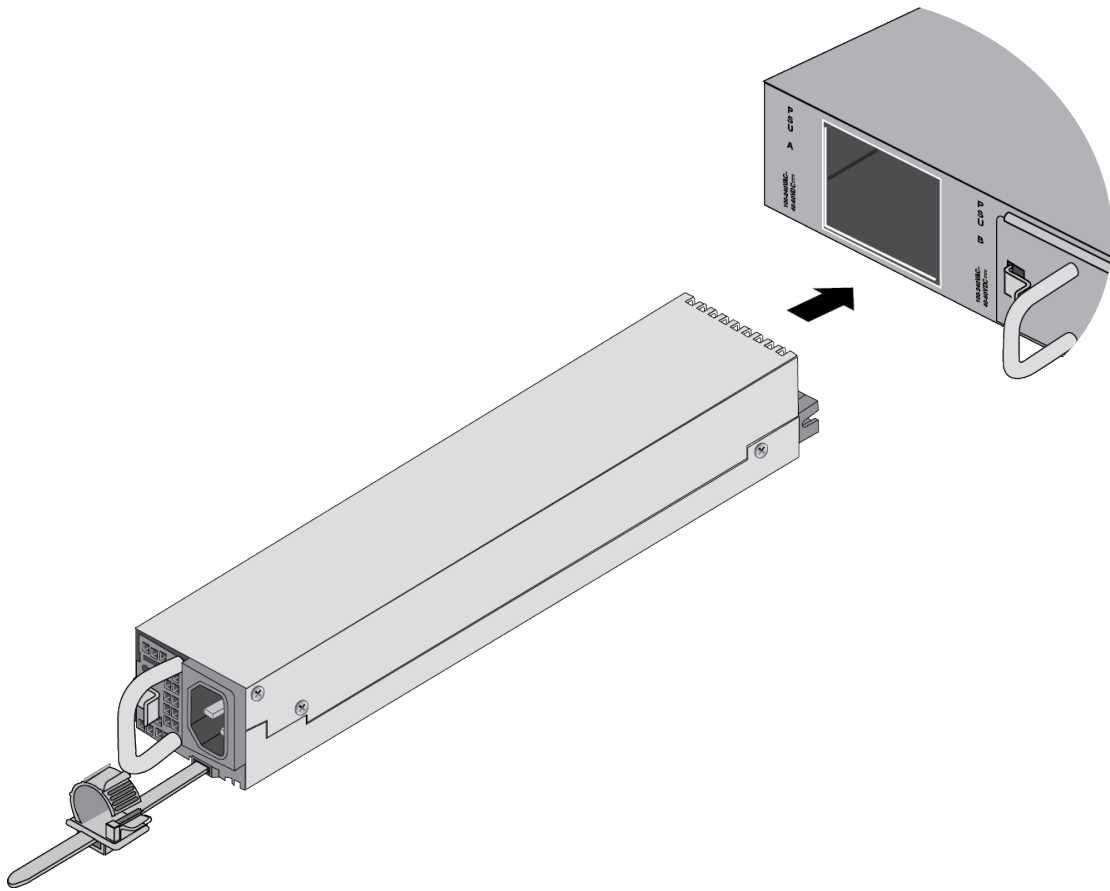

Figure 57. Sliding the PWR600 AC Power Supply into the Switch
3. Carefully align the power supply in the slot and slide it into the slot. Figure 57 shows the module aligned for the PSU A slot.